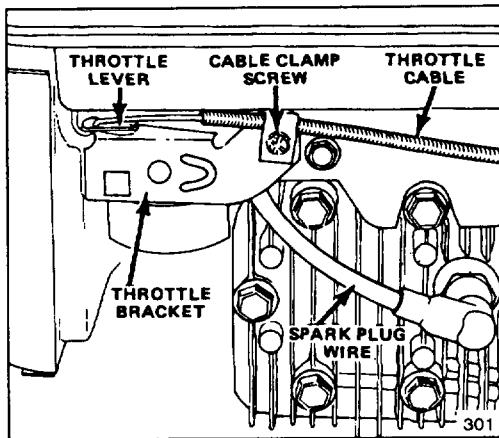
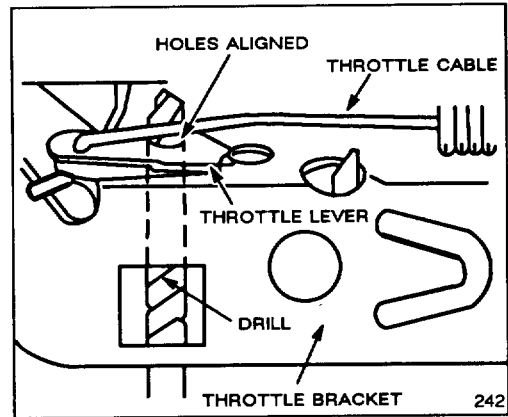

Figure 21
Figure 22
1. Stop engine and pull wire off spark plug (Fig. 21).
3. Loosen cable clamp screw until throttle cable slides (Fig. 21). Align holes in throttle lever and throttle bracket using a .12" (3 mm) dia. pin or a 1/8" dia. drill (Fig. 22). Tighten cable clamp screw to lock adjustment in place.